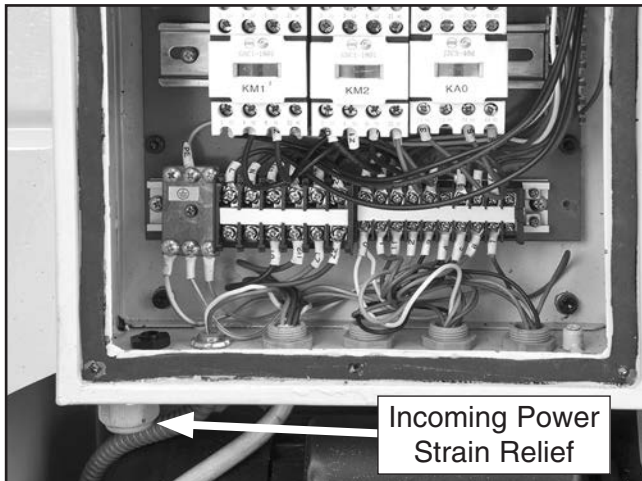

Figure 19. Location of incoming power strain relief.
2. Thread power cord through strain relief shown in **Figure 19**.